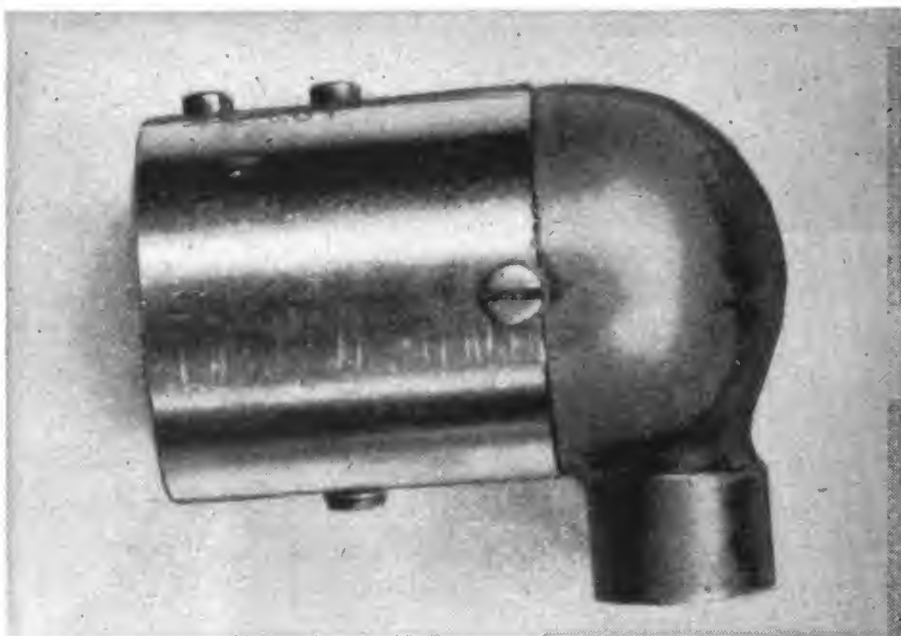

FIGURE 63.—Q-type plug.
*m. Straight and right angle plugs.*—Plugs PL-P ( ) are constructed so the flexible conduit attaches directly to the rear of the plug. If a plug and socket connection is in a location which is comparatively close to the fuselage or another part of the radio set, a Q ( ) type plug can be used. In this type plug the flexible conduit will leave the plug proper at right angles which facilitates the handling of the plug considerably and prevents unnecessary bending of the conduit. (See fig. 63.)